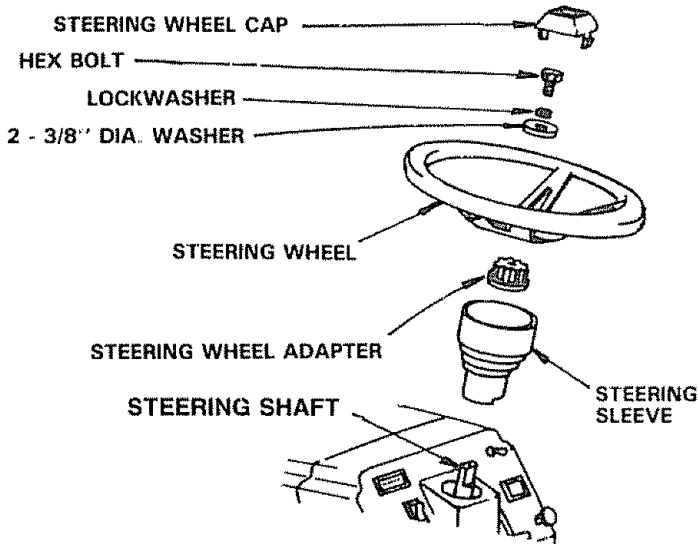

FIGURE 3
- a. Use a 9/16" wrench to remove hex bolt, lockwasher and 2-3/8" diameter washer (shown full size below) from steering column (Fig. 3).
- c. Secure steering wheel to steering shaft using hex bolt, lockwasher and 2-3/8" diameter washer (Fig. 3)